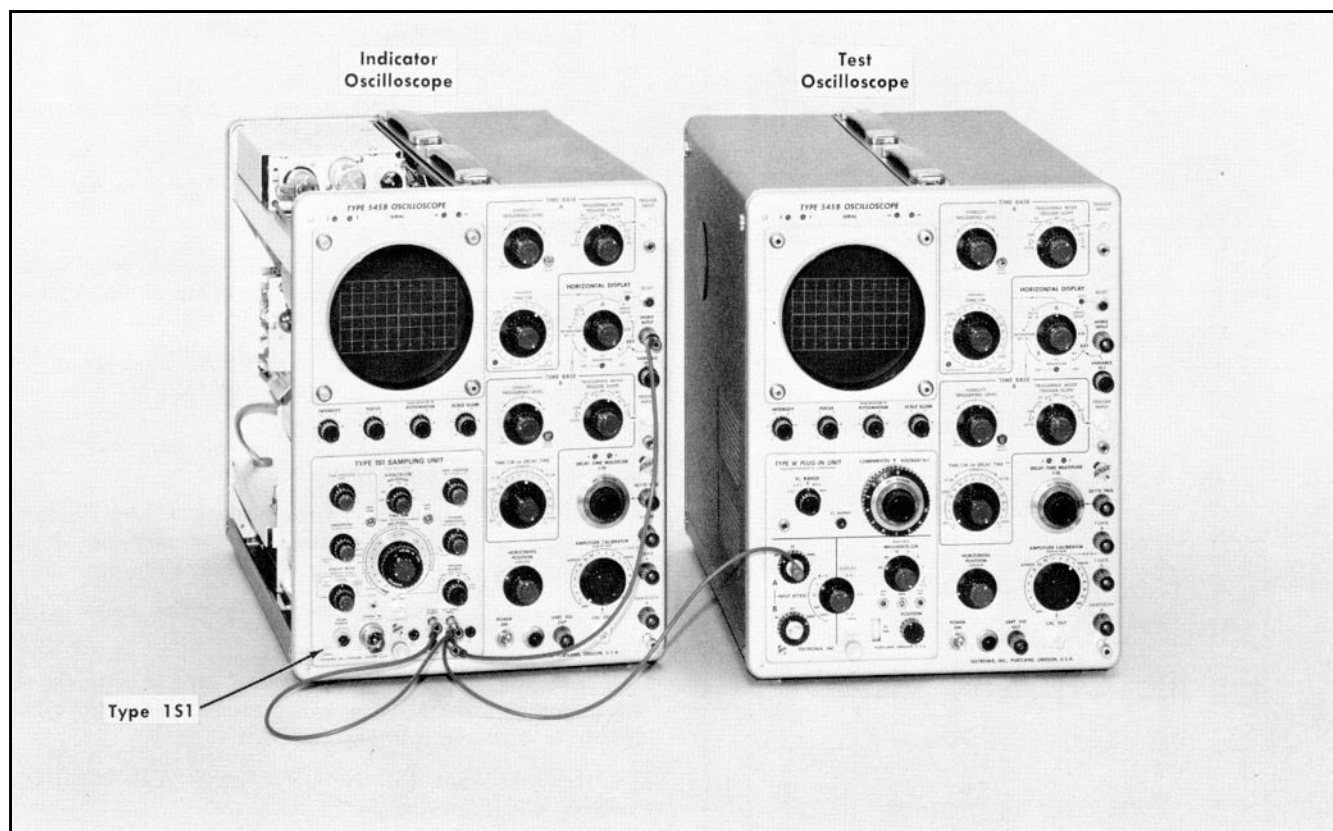

Fig. 5-59. Initial test equipment setup for step 41.
- Test equipment setup is shown in Fig. 5-59.
- Connect a banana/banana patch cord from the OFF-SET OUTPUT jack to the jack at the Type 1S1 EXT HORIZ INPUT, as shown in Fig. 5-59. The patch cord from the Type 1S1 HORIZ OUTPUT jack to the indicator oscilloscope Ext Horiz Input jack should remain in place.